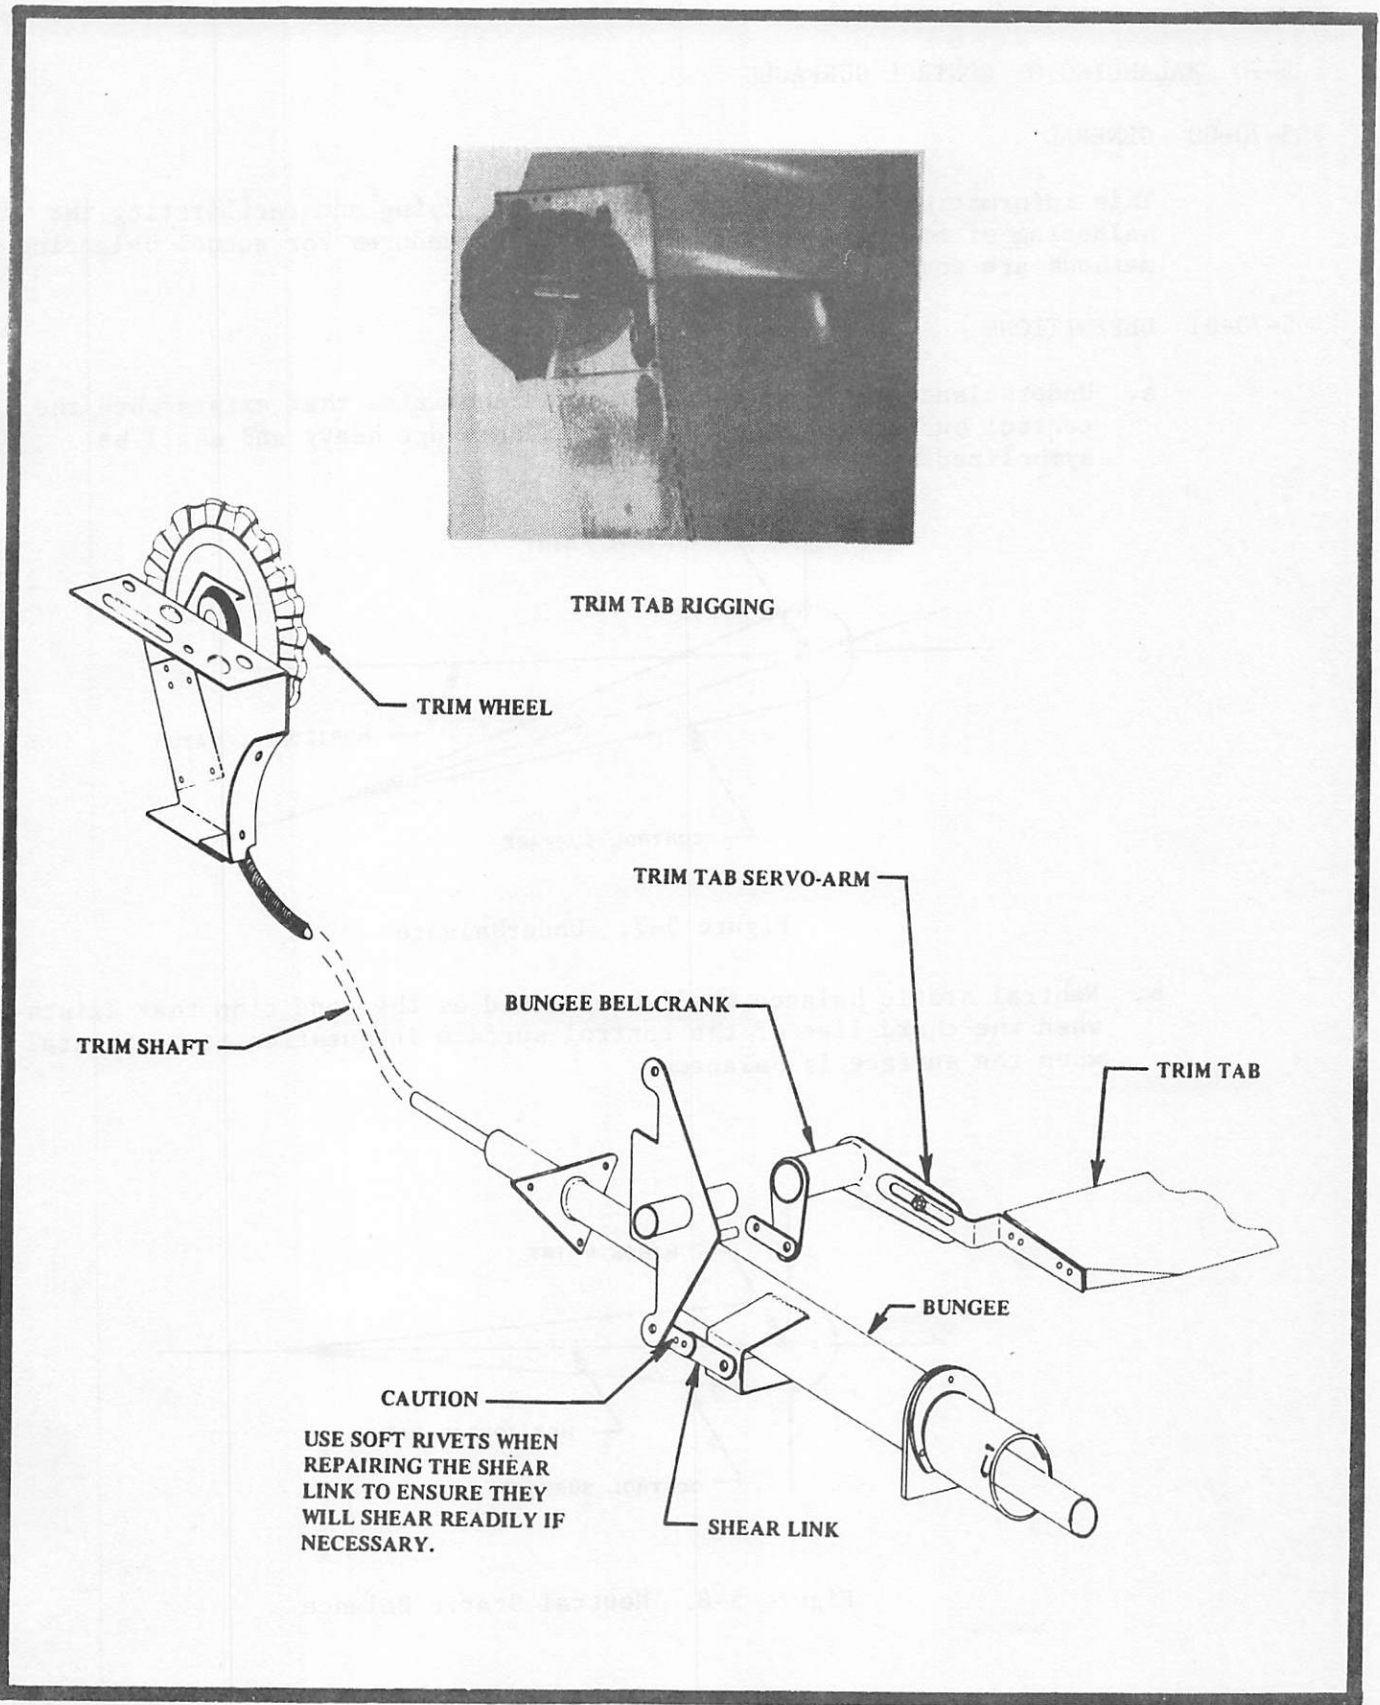

Figure 5-6 Trim System
3. Check the trim tab position at  $11^\circ \pm 2^\circ$  down on the AA-1 and  $18^\circ \pm 2^\circ$  down on the AA-1A and the AA-1B with respect to the elevator surface. To measure the angle, a "bubble protractor" should be used (See Figure 5-6).
*For replacement of the shear-link rivets, see Figure 5-6, Trim System.*